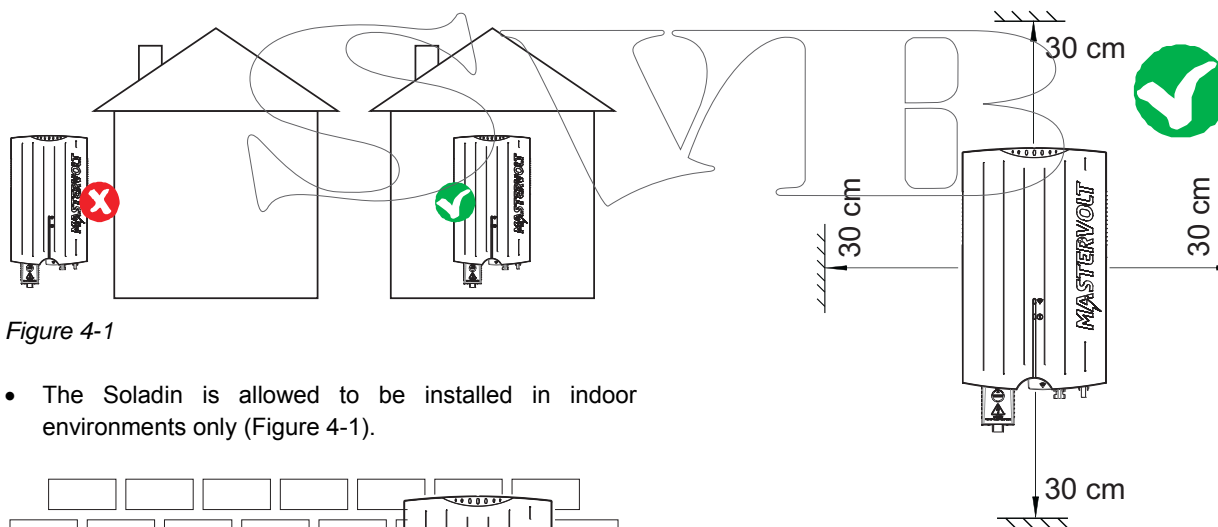

Figure 4-1
- The Soladin is allowed to be installed in indoor environments only (Figure 4-1).